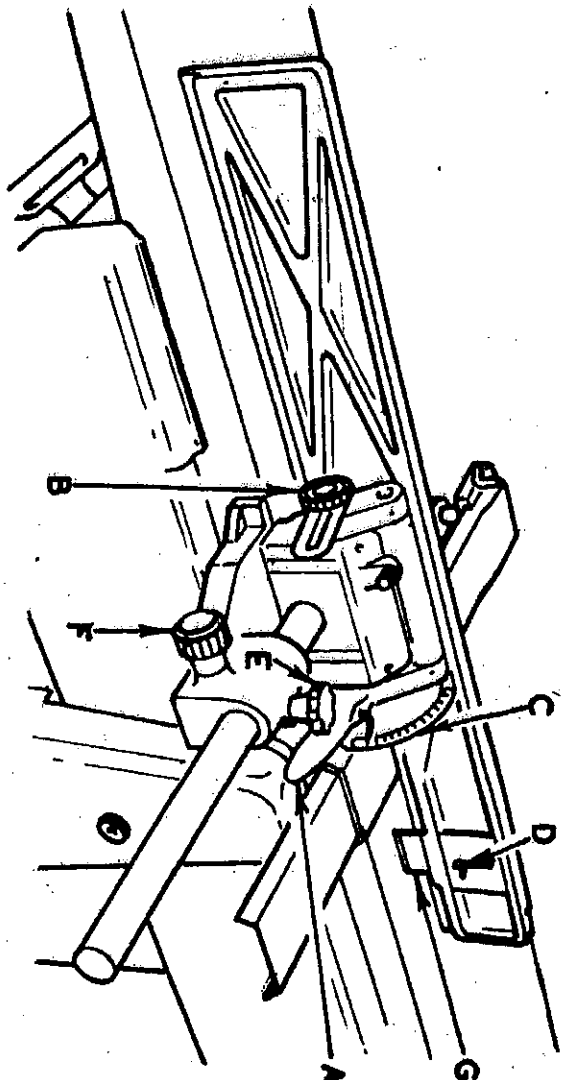

FIG. 10.
The fence cants by means of a single lever "A" in Fig. 10 to  $45^{\circ}$ . The angle to which the fence is canted is shown on a graduated scale "C".
2. Check the  $90^{\circ}$  positive stops by means of a steel square as shown in Fig. 11. If adjustment is necessary, adjust the hexagon head bolts "A" until the fence is at right angles to the table when hard up against the stops and the handwheel "B", in Fig. 10 locked.
3. Check the  $45^{\circ}$  positive stop by means of an adjustable square. If adjustment is necessary, adjust the socket head grub screw "B" until the fence is  $45^{\circ}$  to the table when hard up against the stop and the handwheel "B" in Fig. 10 locked.